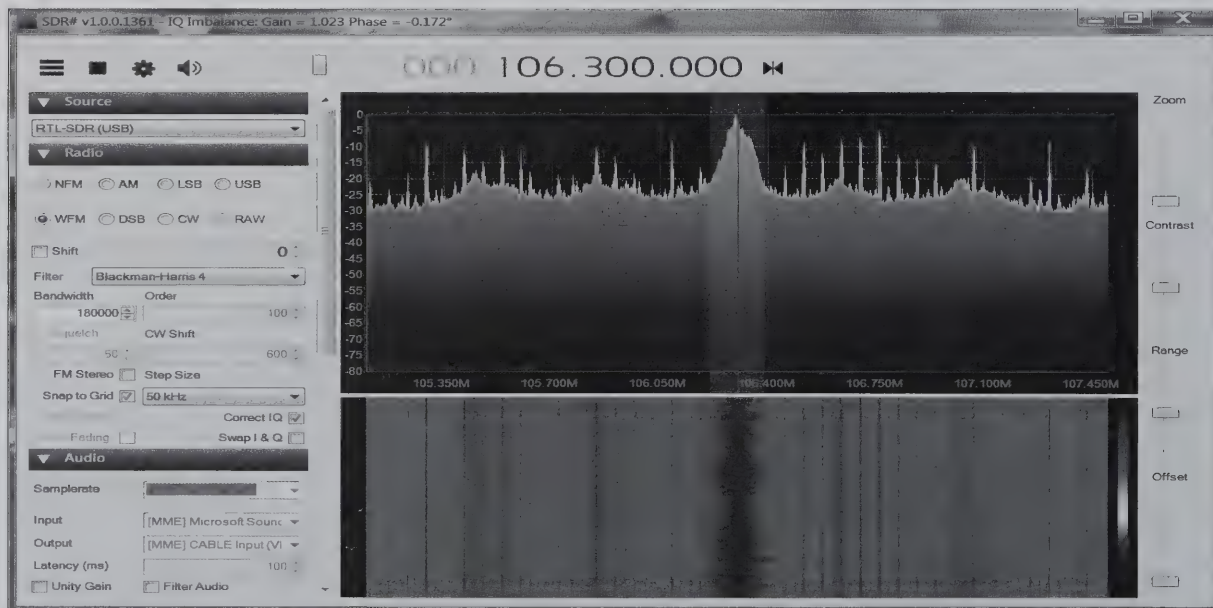

Figure 5.
6. To check that SDRSharp is running correctly, run SDRSharp, select RTL_ SDR from the Source drop down menu. Select WFM for the Radio setting and tune the frequency to a local FM radio station. You should now be able to hear the station audio from the PC speakers (Figure 5).